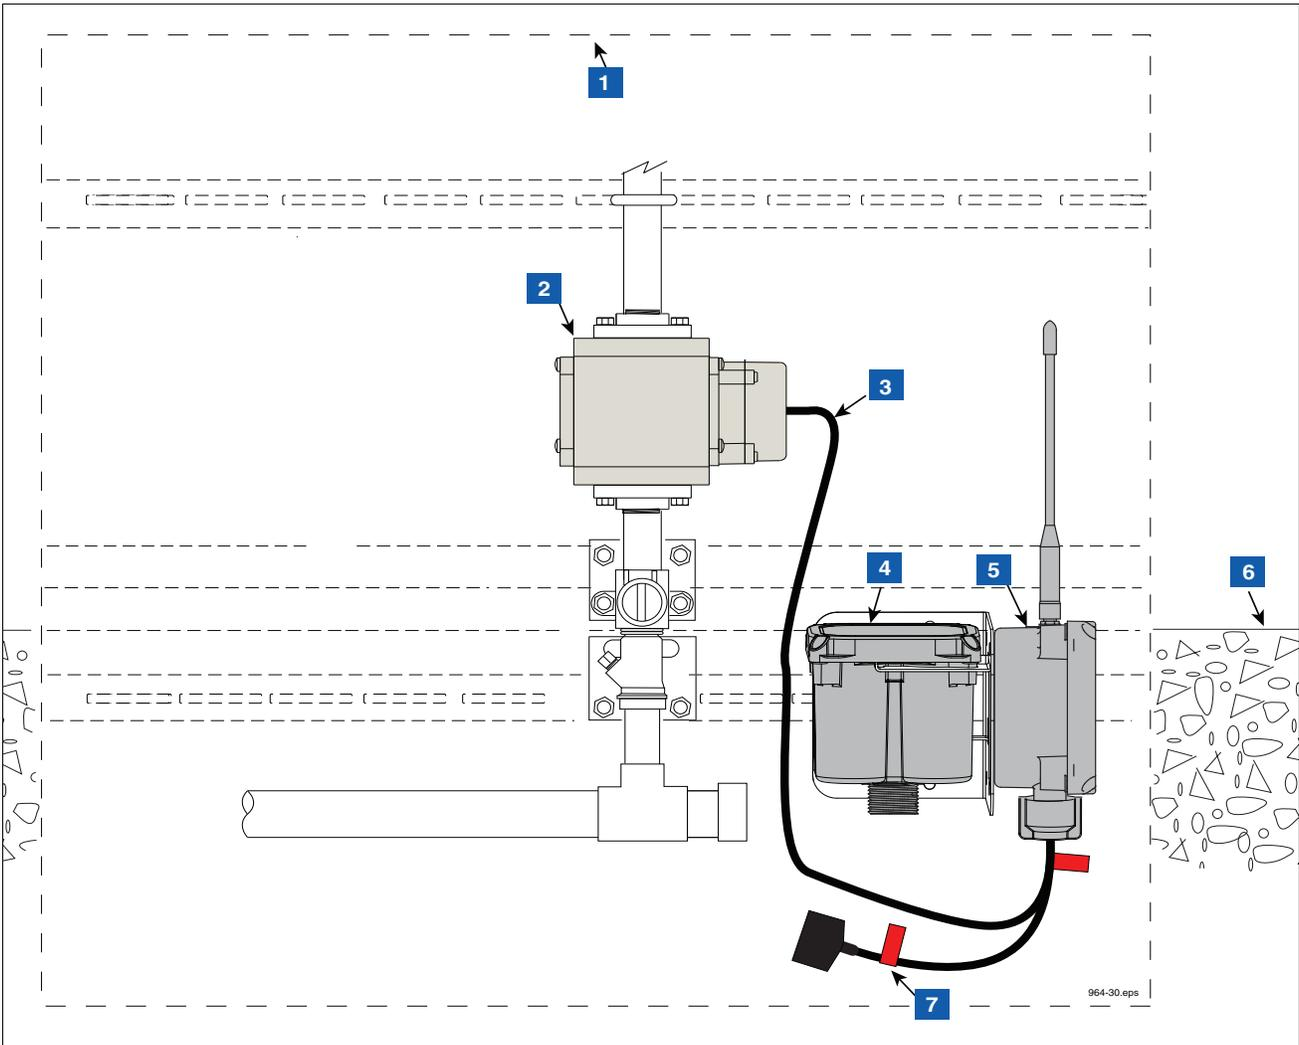

Figure 14. Example VFM Transmitter installation in dispenser
5. Determine a support location within the dispenser cabinet that will allow you room for the transmitter/battery support bracket. Clamp the bracket to an available support structure (see Figure 14).
LEGEND FOR NUMBERED BOXES IN Figure 14